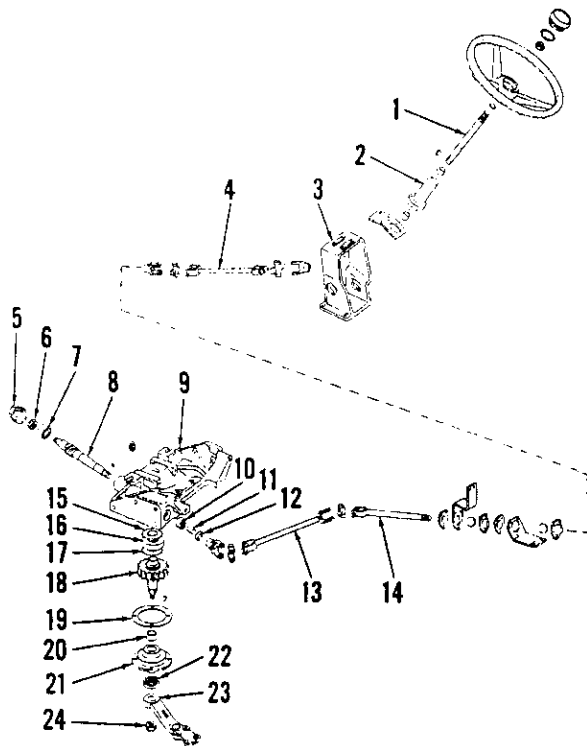

Fig. 10—Exploded view of mechanical steering gear assembly used on Series 424 and 444.
the steering shaft front universal from worm shaft and the steering shaft front support from the fuel tank bracket. Drive universal from worm shaft and remove the Woodruff key. Remove the steering worm retainer (5—Fig. 10) and turn worm shaft forward out of housing.
To remove the steering worm wheel and shaft assembly, proceed as follows: Disconnect the tie-rods from center steering arm and unbolt stay rod bracket from clutch housing. Place a jack under clutch housing to support front of tractor. Remove axle pivot pin, raise front of tractor and roll the front axle assembly forward. Unbolt and remove lower bolster from steering gear housing. Remove the cap screws retaining the worm wheel cage (21—Fig. 10) to steering gear housing and remove the worm wheel and shaft assembly. Remove center steering arm (23) and withdraw worm wheel and shaft (18). Bushing and oil seal can be renewed at this time. Oil seal is